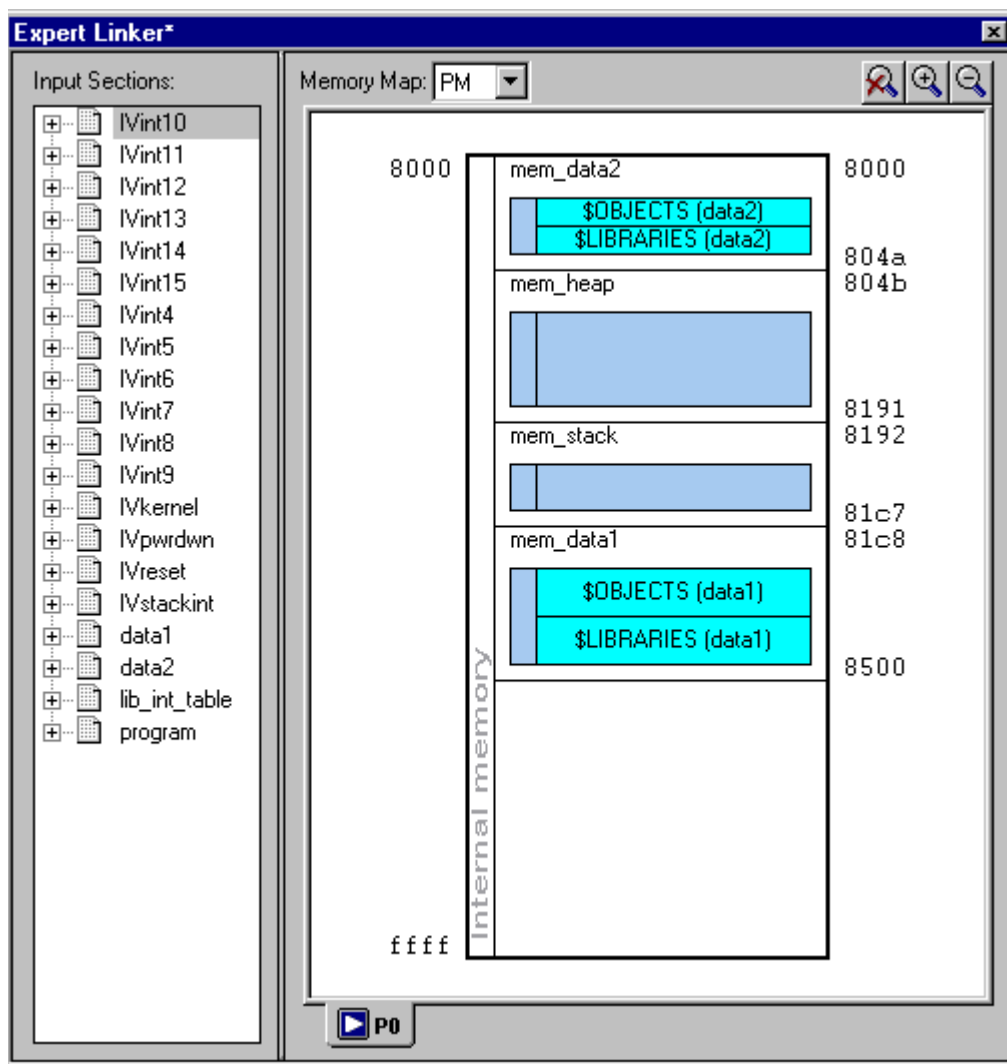

Figure 3-22. Memory Map Pane in Pre-Link View
- To enable pre-link view from the **Memory Map** pane, right-click and choose **View and Mapping Strategy (Pre-Link)**. Figure 3-22 on page 3-31 illustrates memory map before linking.